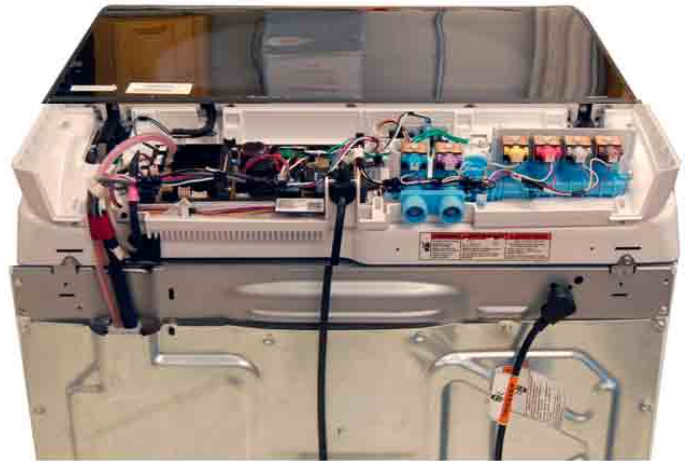

Figure 2
BOTTOM VIEW — DRIVE SYSTEM & PUMPS (FIGURE 2)
5. Once the panel is removed, you have access to the main control, relay expansion board (if equipped), water valve assembly, and lid hinges (see Figure 2).